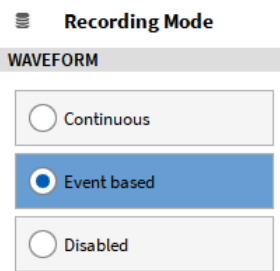

Figure 7-25: Event based waveform Recording selection
- Select *Event based Waveform Recording* as *Recording Mode* (see Figure 7-25):